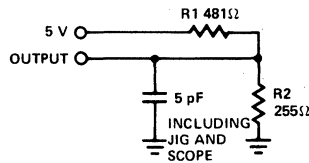

Figure 1b
- tHZOE, tHZCS and tHZWE are tested with CL = 5 pF as in Figure 1b. Transition is measured ± 500 mV from steady state voltage.